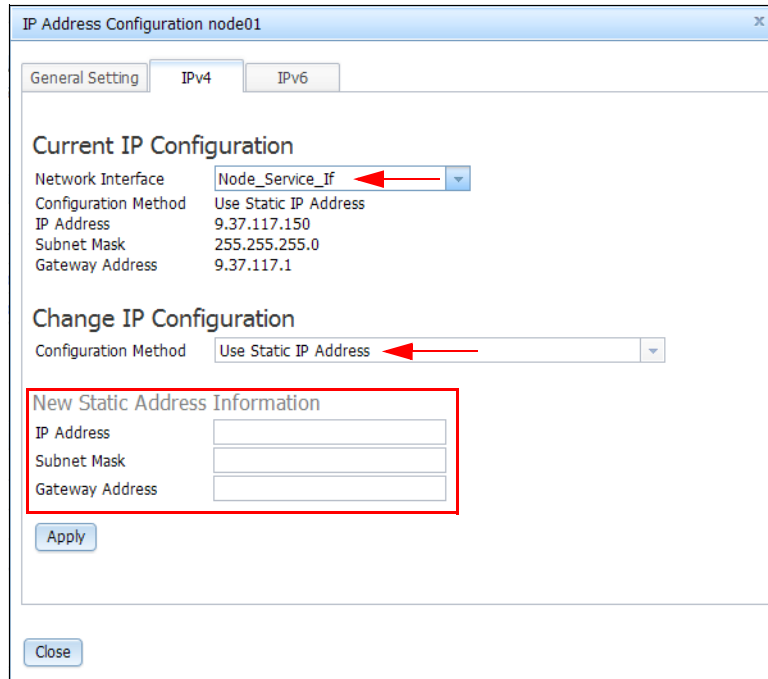

Figure 4-29 Change Service IP by CMM procedure
If the CMM in the chassis is operating and reachable, you can use the CMM to change the Service IP address of a node canister, as shown in Figure 4-29.
4. Select **Node_Service_If** as the Network Interface and select the Configuration Method you want to use. If the selected Configuration Method is to Use Static IP address (as shown in Figure 4-29), type the Static IP address, Subnet Mask, and Gateway address for the New Static IP Configuration.